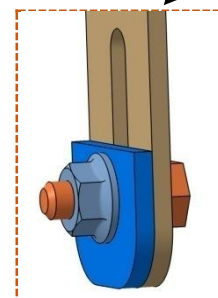

**Figure-9**
9. Mount two 9632-16Y (shown with green color) connector which is shown in **Figure-9** (Look at the Note: 1 in page 11 for the tightening procedure.)